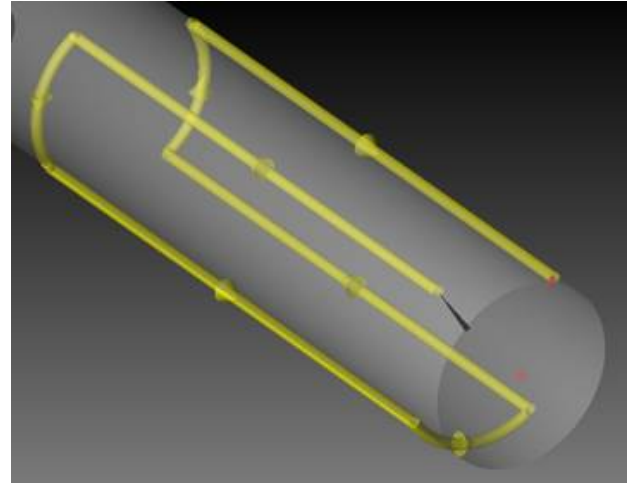

Figure 3 – Cylinder scanning using Joined Linear Scans
- **NEW** Joined Line Scans (blended arcs between line scans; stylus remains on surface) (Figure 3)